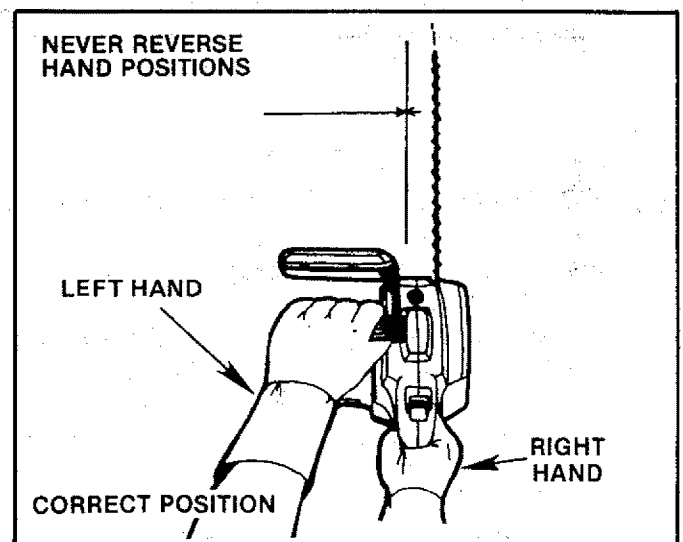

Figure 15
- b. **Position your left hand on the front handlebar and your right hand on the rear handle.** Figure 15. Never reverse right and left hand positions.